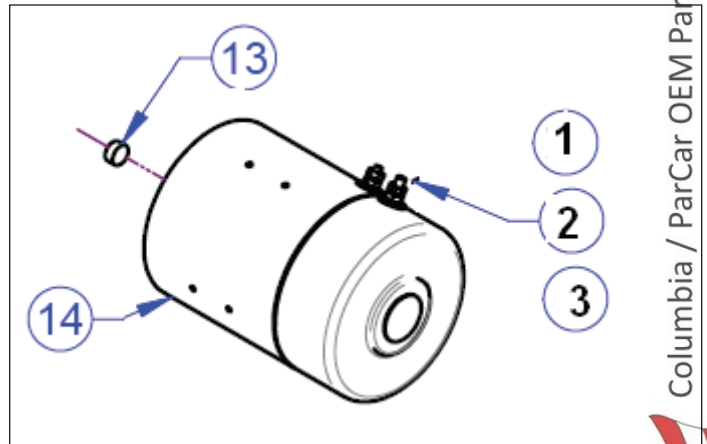

Figure 10-2. Traction Motor Terminal Hardware
Refer to Figure 10-2. Hold terminal jam nut with a thin open end wrench when loosening and removing hex nuts (1), lock washers (2) and flat washers (3) securing electrical cables to traction motor (14).